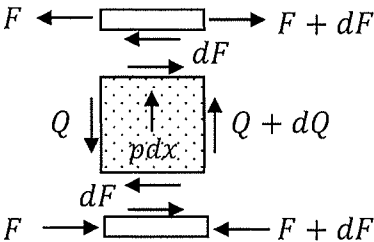

Figure 2
Figures 2 and 3 show the equilibrium of the loads and the deformation in an infinitesimal element of length dx shown in Figure 1, respectively. The axial load and the displacement of the face sheets in the x direction and the shearing load of the core are $F(x)$, $u(x)$, and $Q(x)$. Answer the following questions.
1. Derive the equilibrium equations of the loads in the z direction and the moments in the core, respectively, using Figure 2.